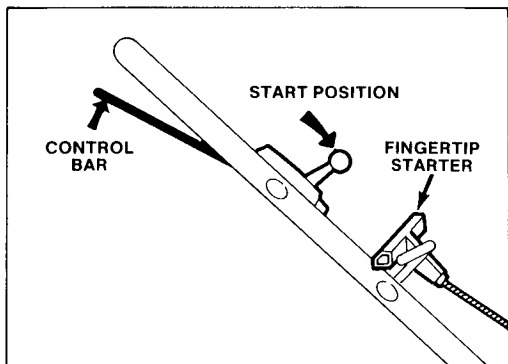
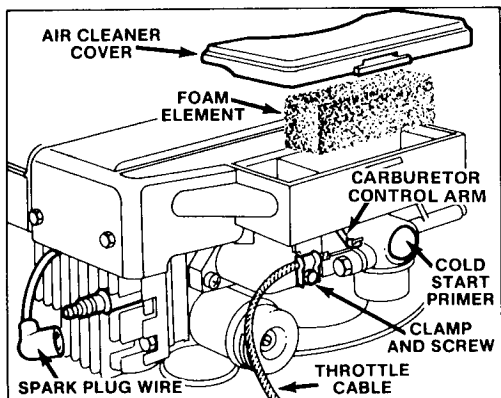

Figure 8
Figure 11
1. **CONTROLS** — Throttle and blade control bar are on upper handle (Fig. 8).
2. **STARTING** (Fig. 8) — Push wire onto spark plug (Fig. 11). Move throttle to FAST and squeeze control bar until it contacts handle. Pull fingertip starter out until positive engagement results; then pull vigorously to start the engine. Regulate throttle as desired when engine starts. If engine does not start after 2 or 3 pulls, wait 10 seconds for carburetor prime well to refill with gasoline.
Before starting engine when temperature is below 50° F (10° C), push cold start primer 5 times (Fig. 11), pausing 2 seconds between each push.
1. Stop engine and pull wire off spark plug (Fig. 11).
2. Lift off air cleaner cover and clean thoroughly (Fig. 11).
3. If top of foam element is dirty, remove it from air cleaner body (Fig. 11). Clean thoroughly.
2. Clean around spark plug and remove plug from cylinder head (Fig. 11).
4. Loosen cable clamp screw until throttle cable slides (Fig. 11). Move carburetor control arm as far to the left as possible. Pull throttle cable slightly to remove any slack and tighten cable clamp screw to lock cable in place.
1. Stop engine. Pull wire off spark plug (Fig. 11).